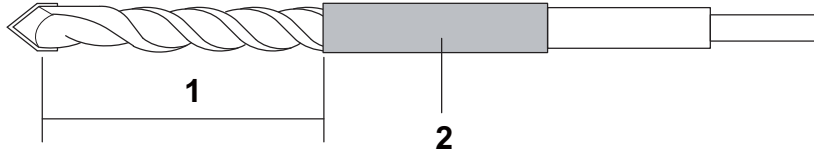

Figure 1-50 Drill Bit
- 3.) Apply a piece of adhesive tape (see Figure 1-50) which will then provide a visual means of making sure the proper hole depth has been reached.